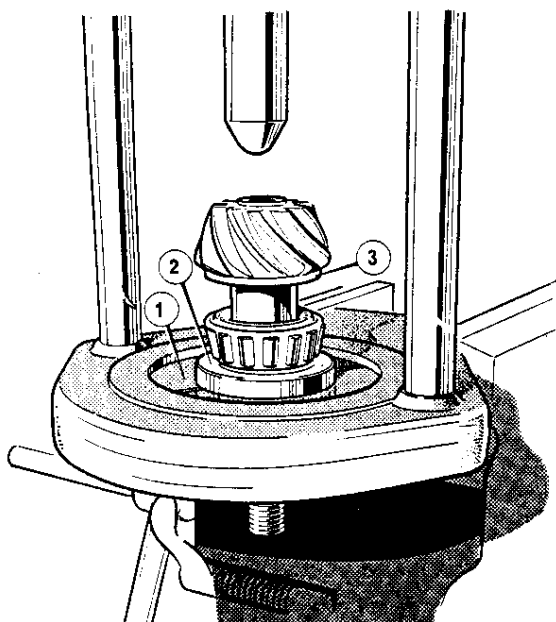

Figure 13 Replacing pinion bearing cone using hand press and collars
5. Remove the dummy pinion assembly, place the selected spacer on the pinion and assemble the bearing cone, using the hand press tool No. 47, adapter RT 8765/2 and bearing replacer collars RT 8765/1 (**Figure 13**)